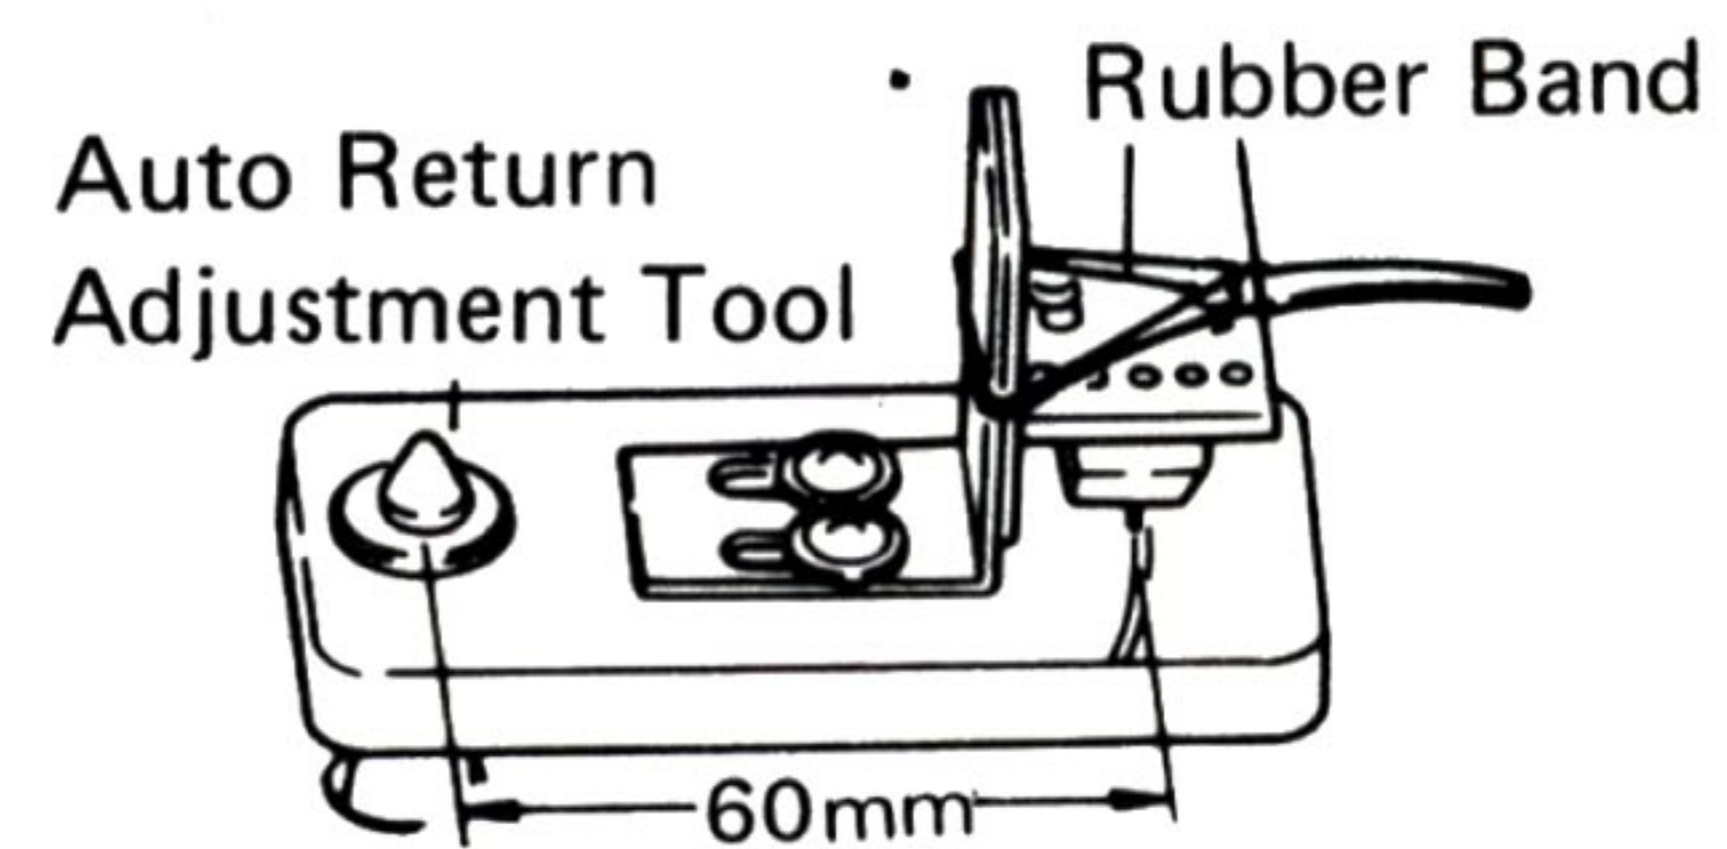

Fig. 35
4. Adjustment tool GGK-057 on center shaft as shown in Fig. 35.
5. Secure headshell at angle set by adjusting tool GGK-057 using rubber band (Fig. 35).